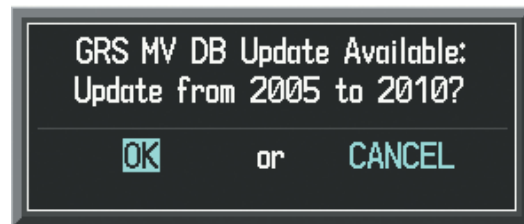

Figure B-9 GRS Magnetic Field Variation Database Update Prompt
- 1) With 'OK' highlighted, as shown in figure B-9, press the **ENT** Key on the MFD. A progress monitor is displayed as shown in Figure B-10.